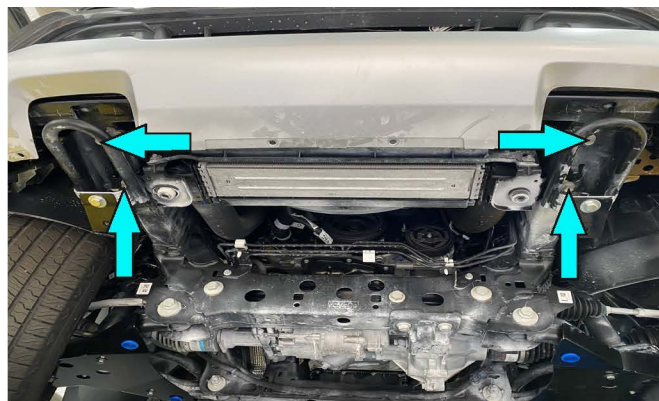

Fig.8
8. Fix intercooler using transmission jack, unscrew OE bolts after that and remove OE recovery points (fig.8.)